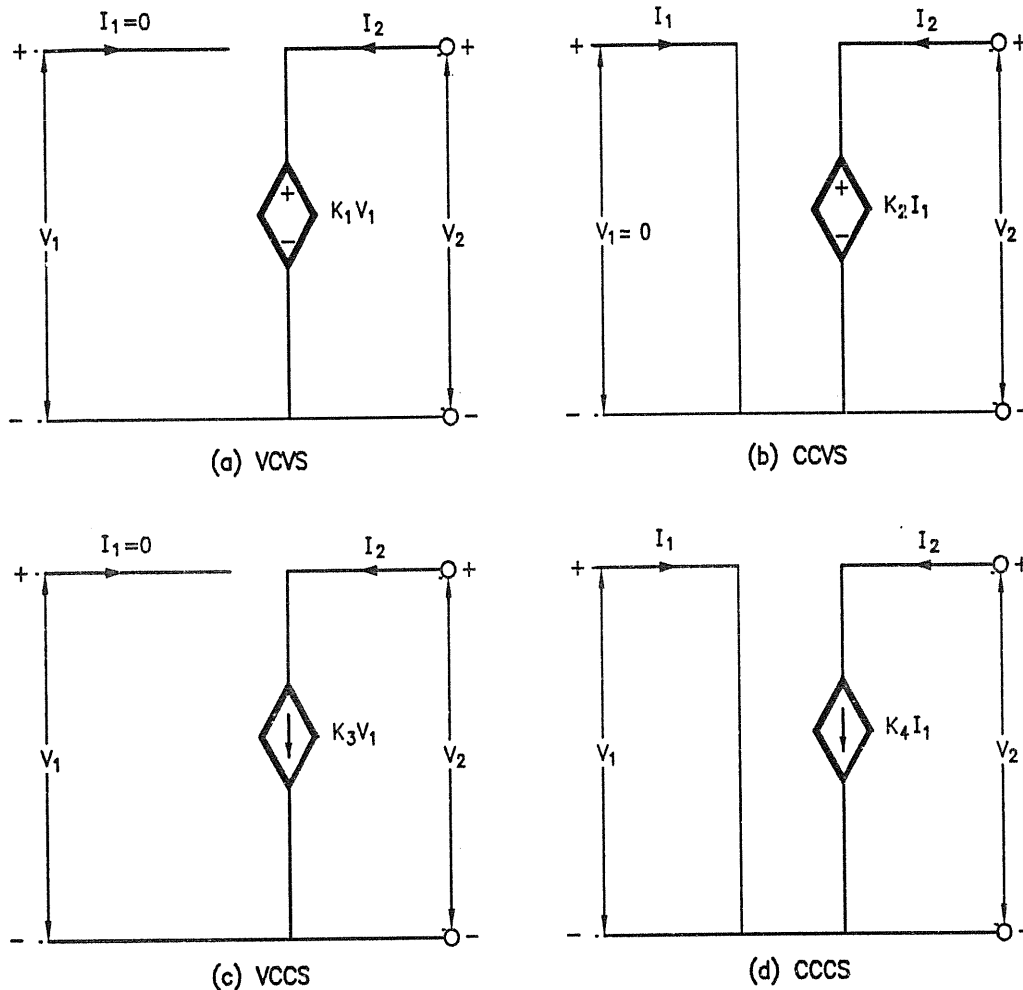

FIG. 1.74 : DEPENDENT OR CONTROLLED SOURCES
(1) Dependent Voltage Source :
- It is of two types : (a) Voltage controlled voltage sources. (VCVS) (b) Current controlled voltage source (CCVS) as shown in Fig. 1.74(a) and (b) respectively.
(2) Dependent Current Source :
- These are shown as Fig. 1.74(c) and (d).